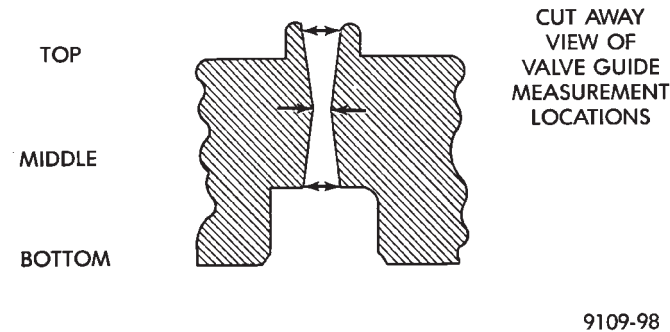

Fig. 97 Checking Wear on Valve Guide—Typical
- (1) Remove carbon and varnish deposits from inside of valve guides with a reliable guide cleaner.
- (2) Using a small hole gauge and a micrometer, measure valve guides in 3 places top, middle and bottom (Fig. 97). Refer to Valve Guide Specification Chart. Replace guides if they are not within specification.